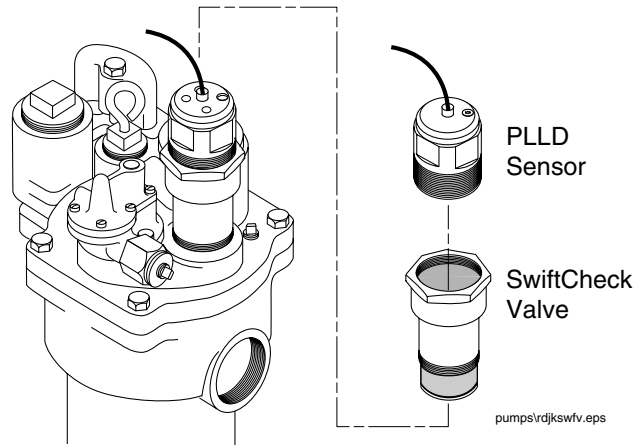
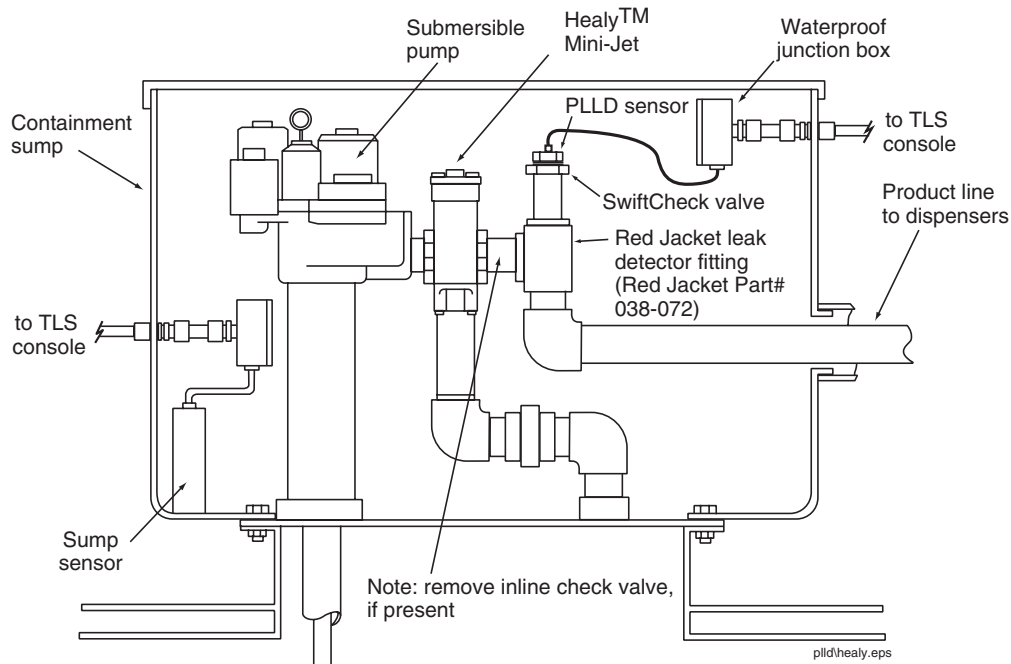

Figure 4. PLLD transducer installation
Figure 5. PLLD install w/Healy Mini-Jet system (required dielectric union and shutoff valve not shown)
6. If there is no Stage II vapor recovery, install the SwiftCheck valve [Figure 4] in the mechanical LLD pump port. Thread the PLLD transducer into the SwiftCheck Valve.
7. If there is a Stage II vapor recovery device installed in the pressurized piping you must install the SwiftCheck valve into a Red Jacket leak detector fitting (P/N 038-072) as shown in Figure 5 instead of in the pump's leak detector port. Because the PLLD transducer must be installed downstream from these devices, a monitored containment sump is required.
8. Thread the PLLD transducer into the SwiftCheck valve (ref. Figure 4 or Figure 5 as appropriate).
4. Thread the PLLD transducer into the LLD port (Figure 5).
Lubricate the external o-ring on the SwiftCheck valve using mineral oil or other suitable lubricant and thread the valve into the Red Jacket leak detector fitting (P/N 038-072) as shown in Figure 5 on page 11 instead of in the pump's leak detector port. Next thread the PLLD transducer into the SwiftCheck valve.
4. If the pump does have a Stage II vapor recovery device installed in the pressurized piping, lubricate the external o-ring on the SwiftCheck valve using mineral oil or other suitable lubricant and thread the valve into the Red Jacket leak detector fitting (P/N 038-072) as shown in Figure 5 on page 11 instead of in the pump's leak detector port. Next thread the PLLD transducer into the SwiftCheck valve.